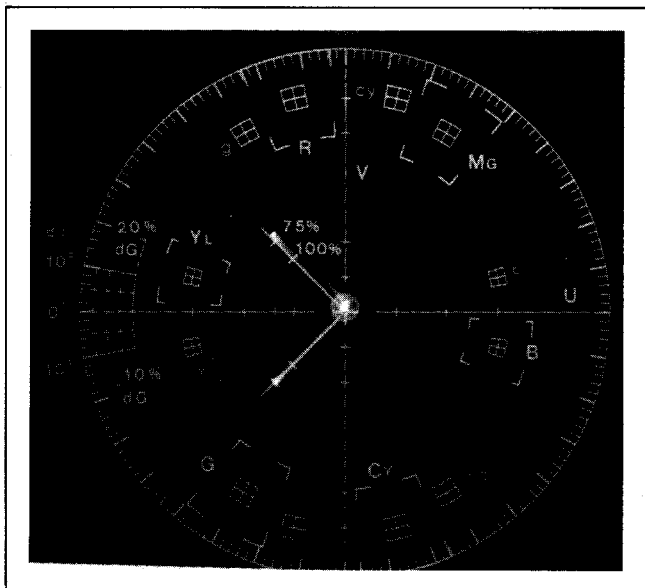

Fig. C22
4. * Push [INC] or [DEC] keys until phase of red and yellow vectors are as close as possible to Spec. See Fig.C22.